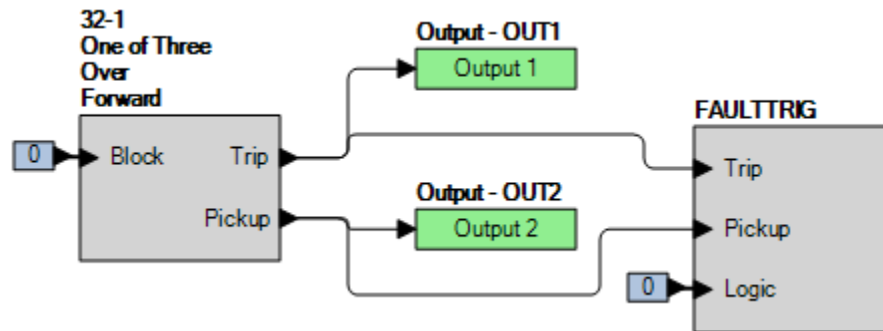

Figure 78-1. BESTlogicPlus Settings
Step 2: Use BESTCOMSPlus to configure the BESTlogicPlus Programmable Logic shown in Figure 78-1.